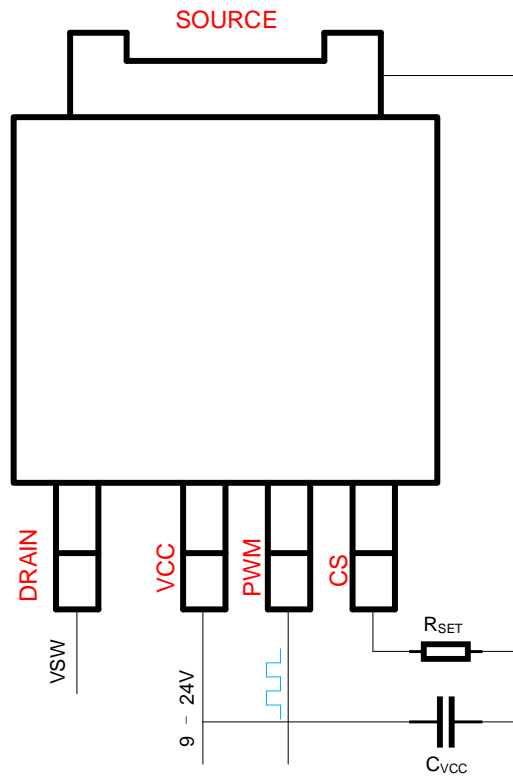

Figure 19. IC connection diagram
The typical connection diagram for this GaN Power IC is shown in Figure 19. The IC pins include drain of the GaN power FET (D), source of the GaN power FET (S), IC supply ( $V_{CC}$ ), PWM input (PWM), and current sensing output (CS). The external components around the IC include  $V_{CC}$  filter capacitor ( $C_{VCC}$ ) connected between  $V_{CC}$  pin and S pin, a current sense amplitude set resistor ( $R_{SET}$ ) connected between CS pin and S.